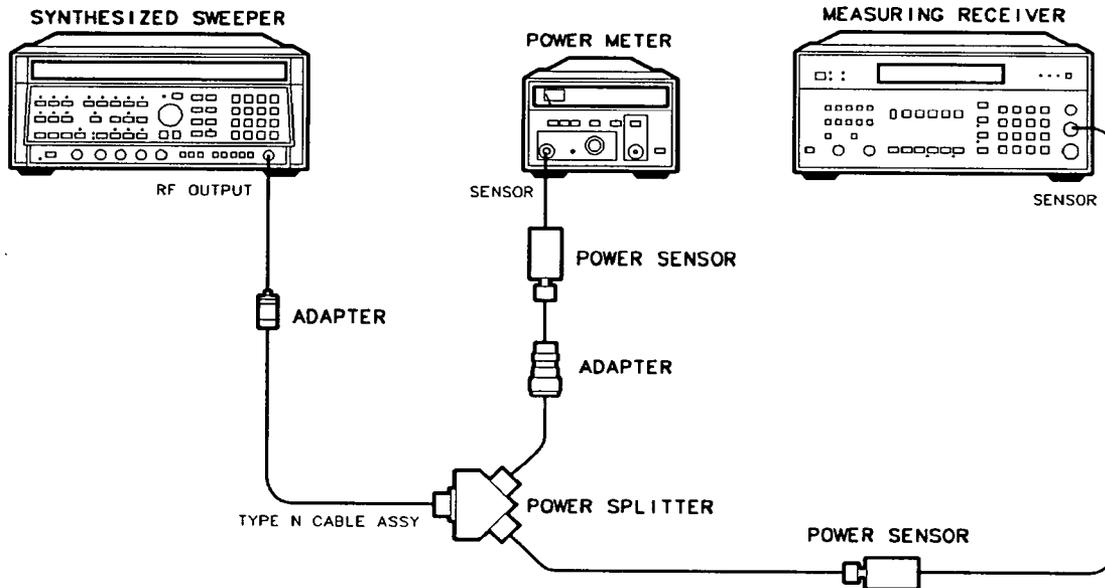

Figure 2-26. System Characterization Test Setup (Option 001)
4. Connect the equipment as shown in Figure 2-26.